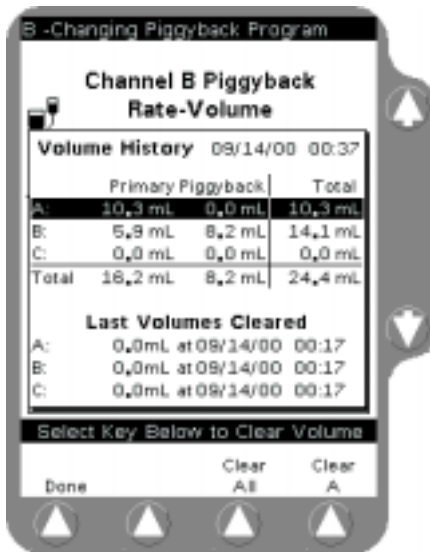

Figure 3-26 Volume History Screen
3. Press the **Done** soft key to return to the previous screen (Figure 3-26).